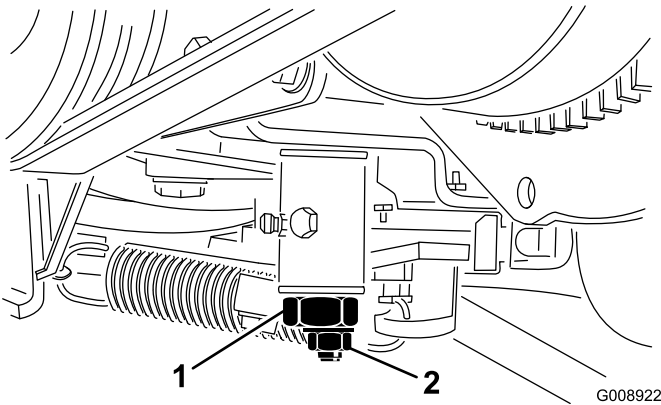

Figure 65
3. Loosen locknut on traction adjustment cam (Figure 65).